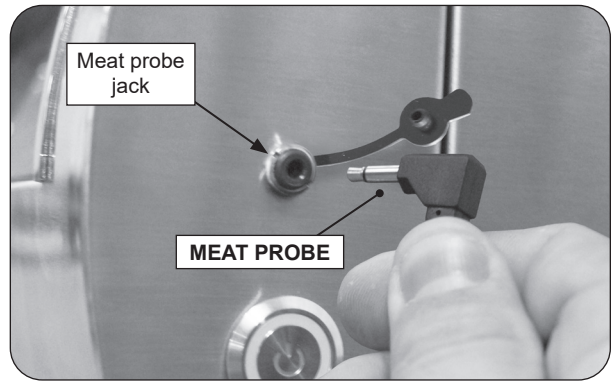

Fig. 28-1 Plug in meat probe
**Models with a single control** are equipped with a touch-panel controlled digital thermometer/thermostat for temperature adjustment, meat probe temperature monitoring, and timed cooking. Plug the meat probe into the meat probe jack found on the right side of the control panel as shown in Fig. 28-1, if desired.
**Models with dual controls** are equipped with two touch-panel controlled digital thermometer/thermostats. Each side of the grill has a dedicated temperature control, meat probe jack for temperature monitoring, and timed cooking. Plug the meat probe into the meat probe jack found on the left or right sides of the control panel as shown in Fig. 28-1.